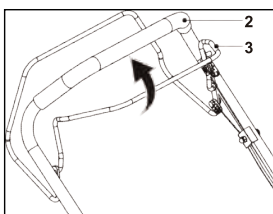

Fig. 10
1. Pull back the brake lever (3) and hold it against the upper handle bar (2) when starting the engine. Keep it squeezed during operation (Fig. 10).
2. Release the brake lever (3) to stop the engine.
1. Pull back the brake lever (3) and hold it against the upper handle bar (2) (Fig. 10).